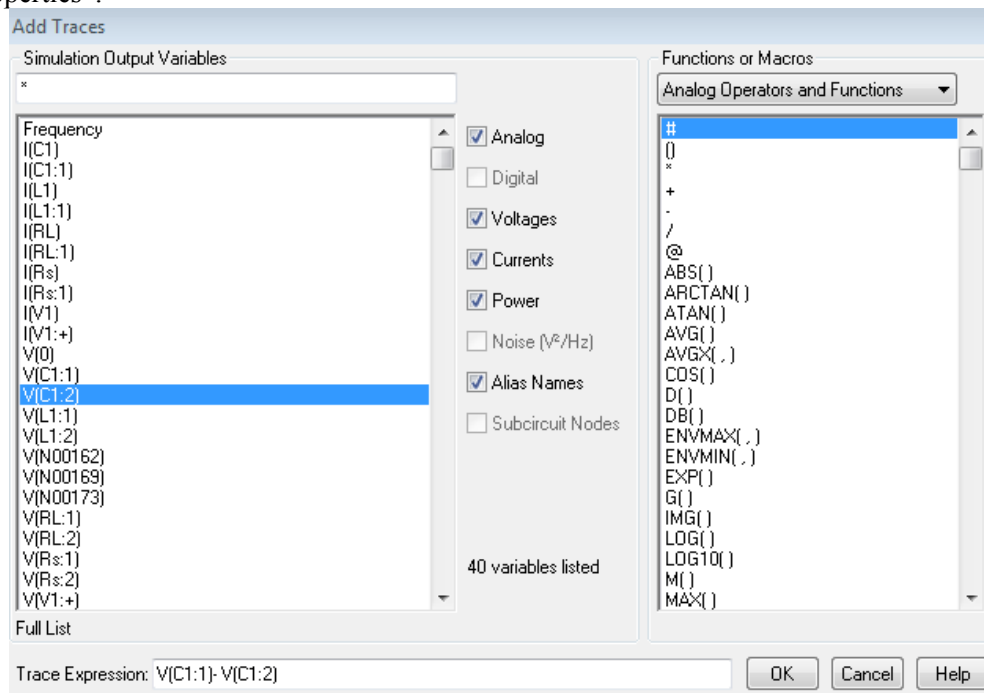

Figure 3. Add trace.
- a. Go to the “Trace” drop-down menu and select “add trace”. The pop-up window shown in Figure 3 will appear. Enter the expression $V(C1:1)-V(C1:2)$ to get the voltage across the capacitor.